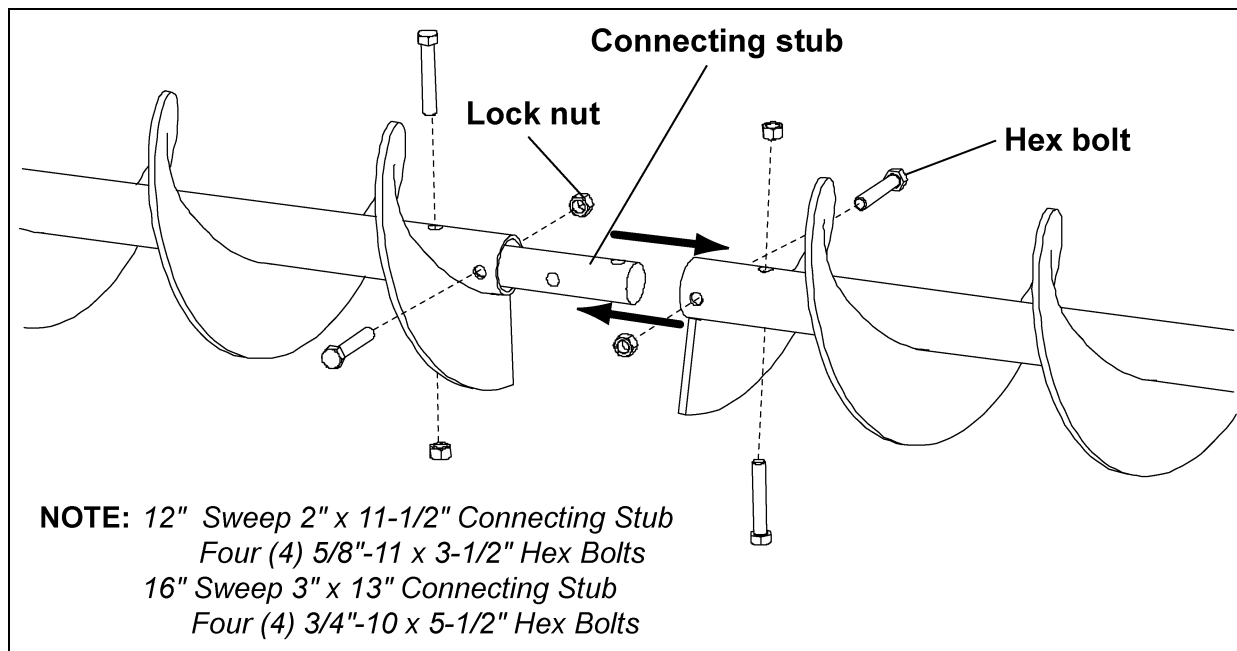

Figure 5C
- A. Lay out the flight sections in order of assembly starting with the head flight working towards the tail flight. (See Figure 5C.)